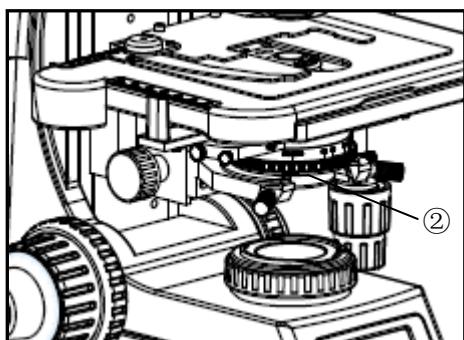

Fig.21
3.2.6 Aperture Iris Diaphragm Adjustment (Fig.21)